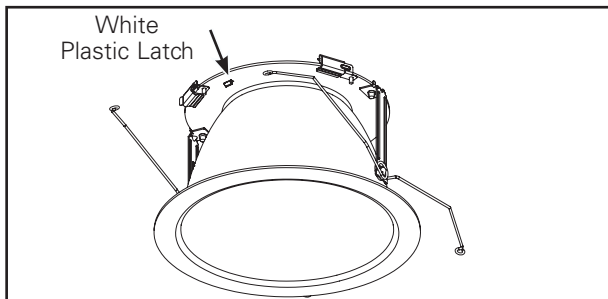

Figure 12
1. Press in on white plastic latch to remove upper reflector and clean lens. (Figure 12 & 13.)